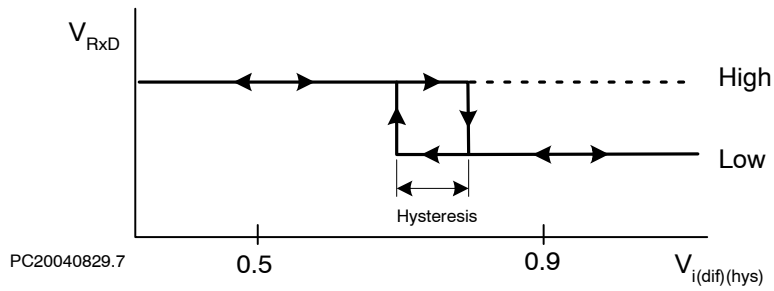

Figure 4. Hysteresis of the Receiver
2. Applied transient waveforms in accordance with “ISO 7637 part 3”, test pulses 1, 2, 3a, and 3b (see Figure 4).